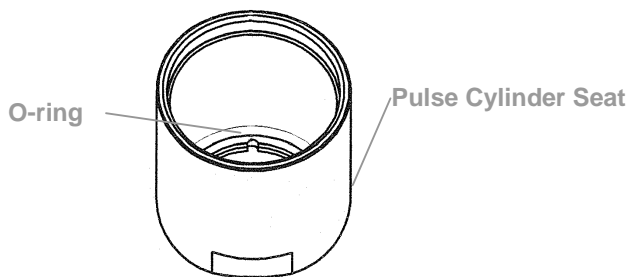

Fig. 35
4.1 Place the O-ring inside the bottom of the pulse cylinder seat, then combine the pulse cylinder seat with the assembled pulse cylinder unit. (Fig. 35, Fig. 36)